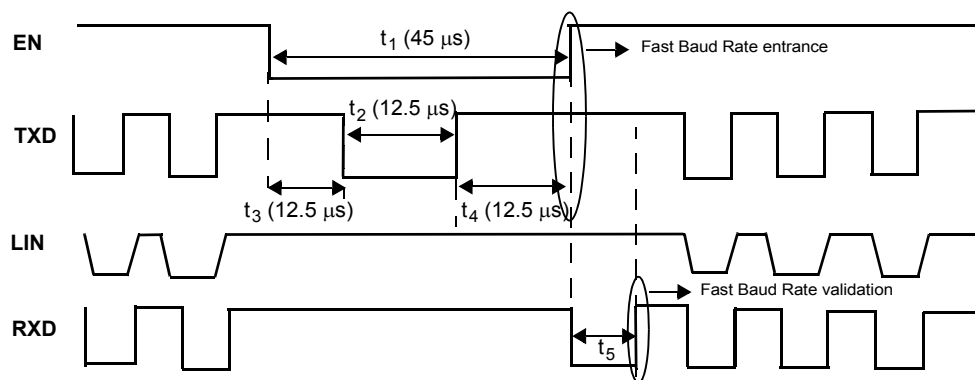

Figure 22. Fast Baud Rate Selection (Toggle Function)
30. See Figure 22 and 23
A combination of the logic levels on the EN and TXD pins allows the device to enter into the Fast Baud Rate mode of operation (see Figure 22).
The device enters into the Fast Baud Rate if the delay between Step 1 to Step 5 is 45 μ s maximum. The toggle function is described in Figures 22. Once in Fast Baud Rate, the same toggle function just described previously is used to bring the device back into Normal Baud Rate.
Fast Baud Rate selection is reported to the MCU by RXD pin. Once the device enters in this Fast Baud Rate, the RXD pin goes at low level for t_5 . When the device returns in Normal Baud Rate with the same toggle function, the RXD pin stays high. Both sequences are illustrated in Figures 22 and 23.